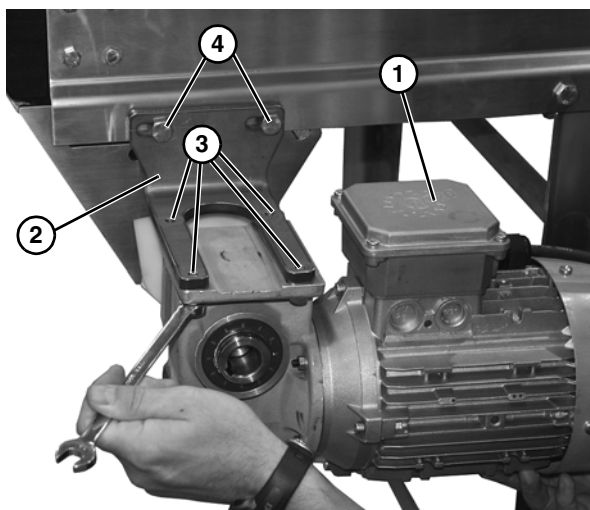

Figure 20
9. Attach the gearmotor assembly (**Figure 20, item 1**) to the gear reducer mounting bracket (**Figure 20, item 3**) with four bolts (**Figure 20, item 3**).